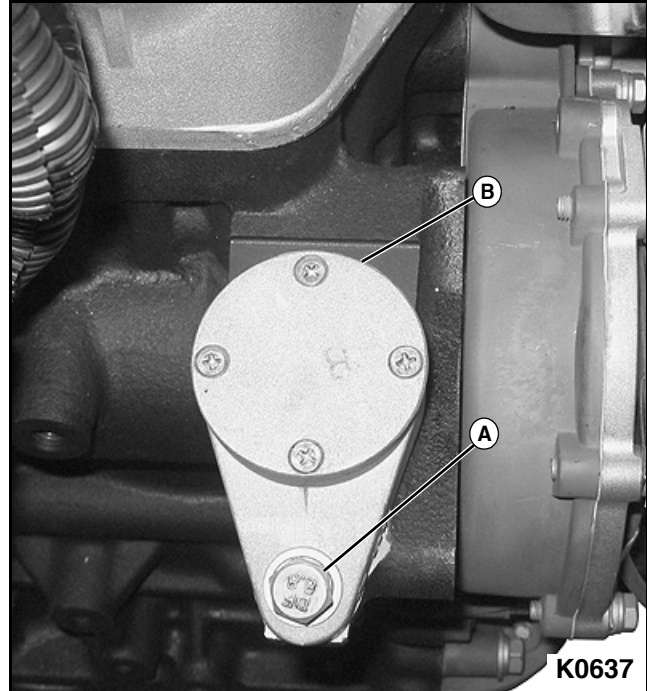

Figure 3-104
1. Remove mounting bolt, flat washer, and lock washer (A) from oil pump drive (B). **See Figure 3-104.**
2. Pull oil pump drive (B) from cylinder block. Cover opening.